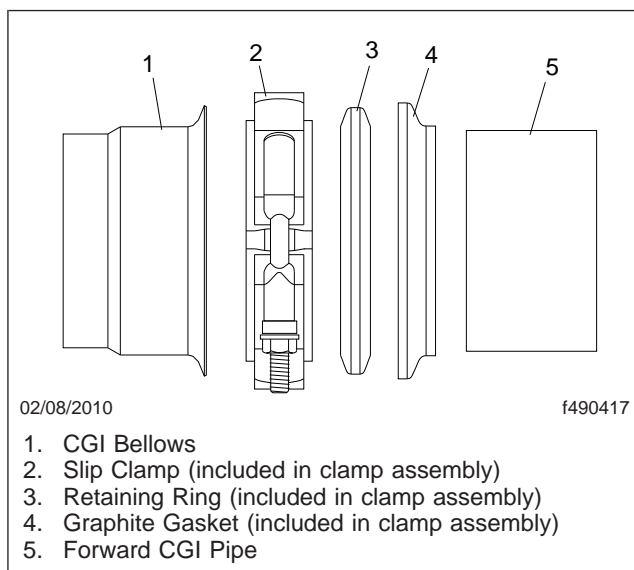

Fig. 6, Forward Facing Slip Clamp Installation
13. Install the slip clamp assembly with the retaining ring and graphite gasket ring, onto the forward CGI pipe. See Fig. 6 for proper installation.